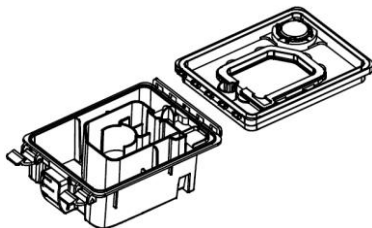

Fig. 5-5
(2) Cleaning the Water Chamber: Wash the two parts of the water chamber, as shown in Fig. 5-5. You may also clean them with a soft cloth which does not scratch the water chamber